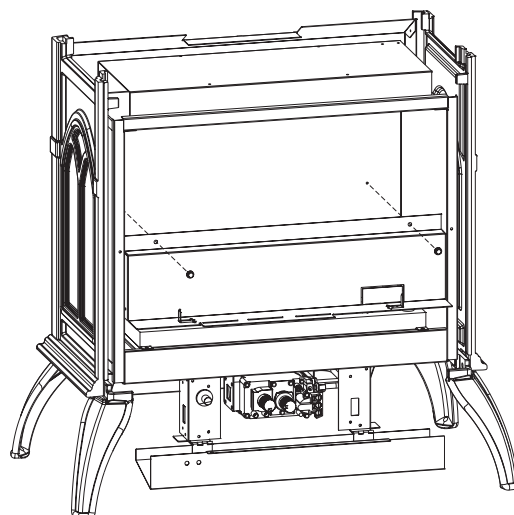

Figure 6
5. Remove the log shelf by removing the two (2) screws securing the log shelf to the rear wall. See Figure 6.